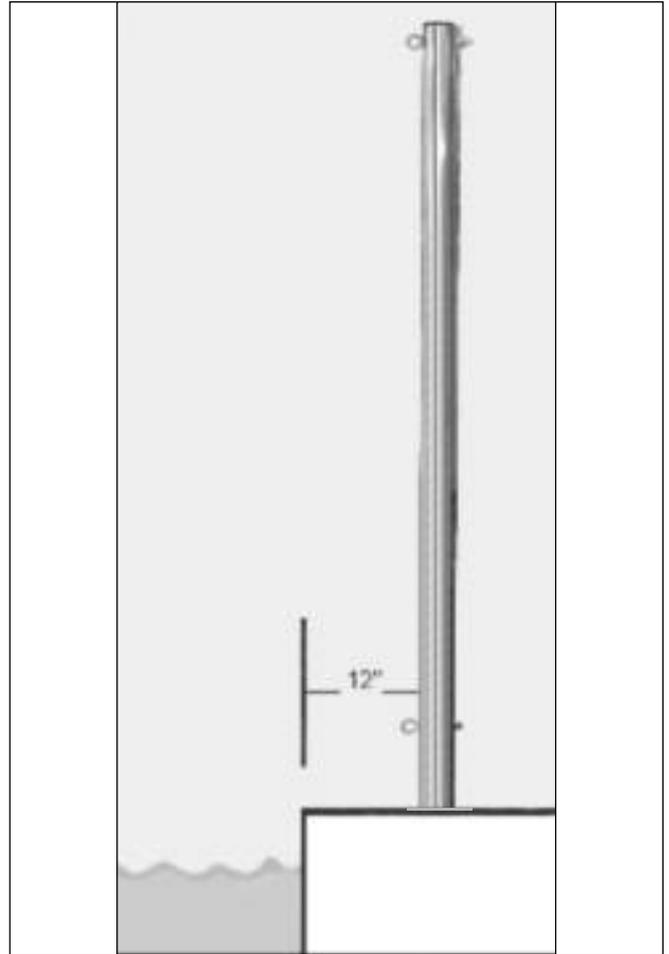

Figure 6
STEP ONE: Position the poles 12" from the edge on the pool (as shown in Fig. 6) on the shallow end of the pool. Orient the poles (as shown in Fig. 7) to ensure that the deck flange hole and pole eyebolt hole are facing the pool. Mark the three (3) flange hole locations for each pole.